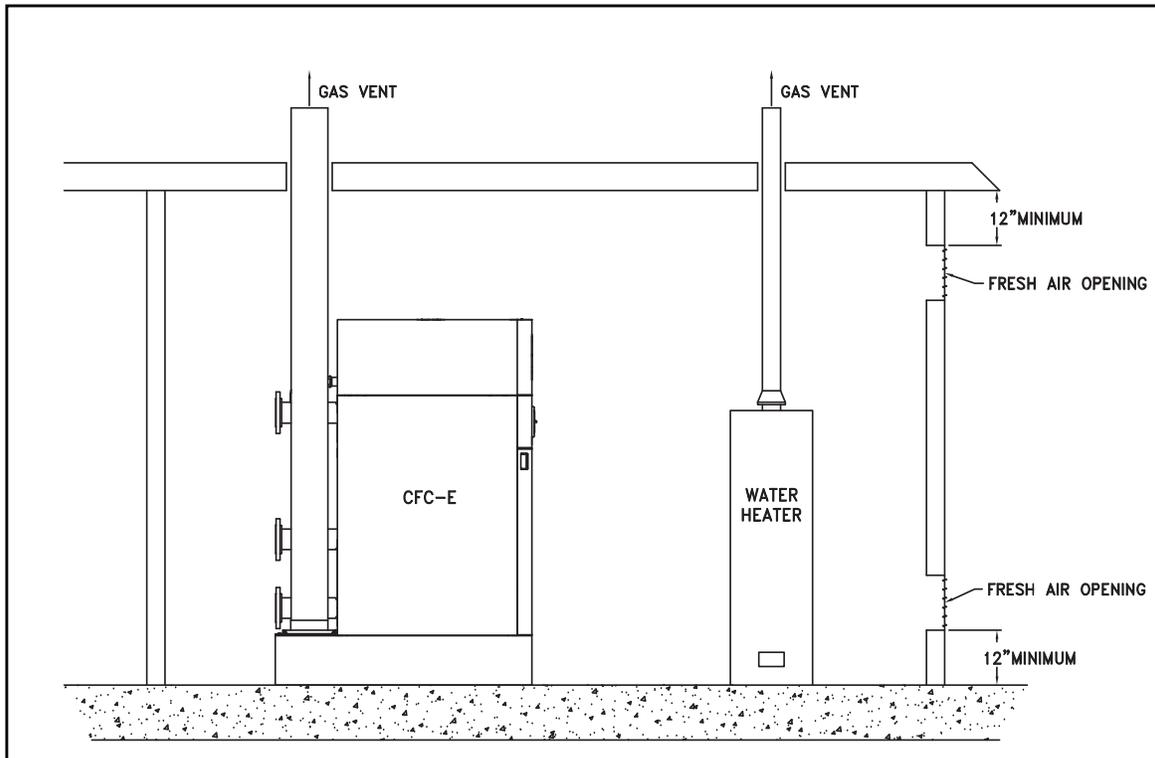

Figure 27. Two Opening Outside Wall Method
1. Two Opening Method (Figure 27) - The mechanical equipment room must be provided with two permanent openings, one terminating within twelve inches from the top, and one opening terminating within twelve inches of the bottom of the room.